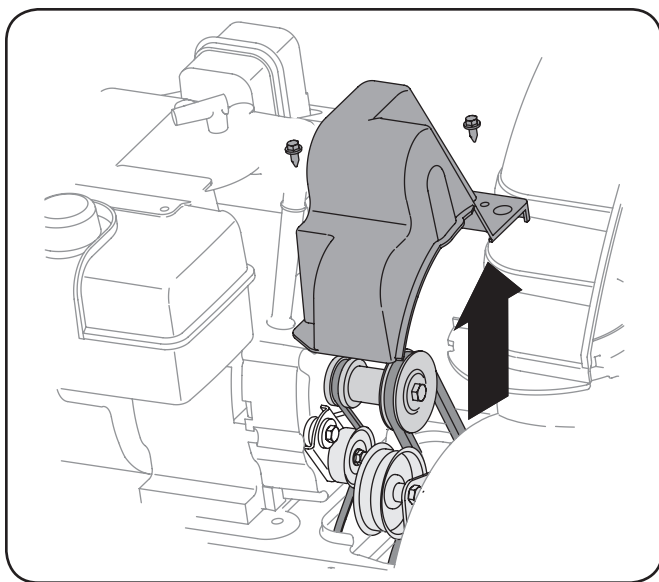

Figure 8-1
2. Remove the plastic belt cover on the front of the engine by removing the two self-tapping screws. See Fig. 8-1.
2. Remove the plastic belt cover on the front of the engine by removing the two self-tapping screws. Refer to Fig. 8-1.